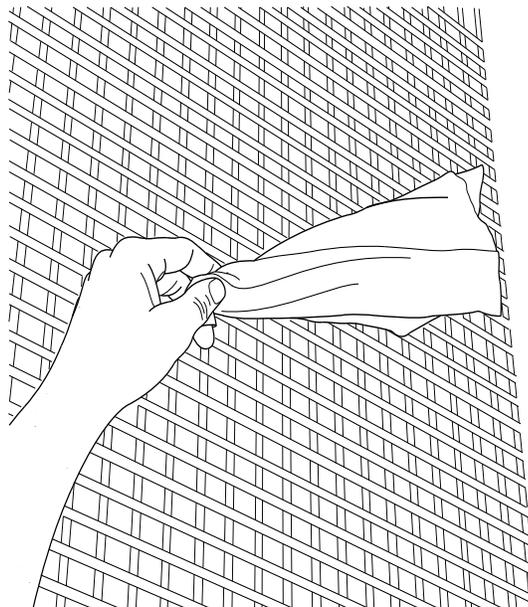

Figure 6.43 - Verify Fan Direction
4. Verify Proper Fan Purge Operation - Quickly head over to the radiator and hold a rag or piece of paper to the face of the fan (Figure 6.43). Verify that the fan direction changes when the purge cycle ends (typically ten seconds from when it was initiated).